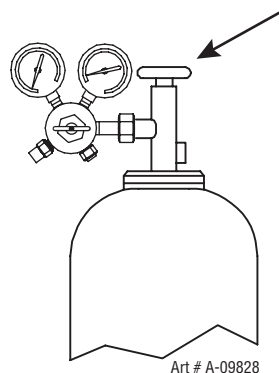

Figure 3-5: Open Cylinder Valve
9. Slowly and carefully open the cylinder valve (Figure 3-5) until the maximum pressure shows on the high pressure gauge.